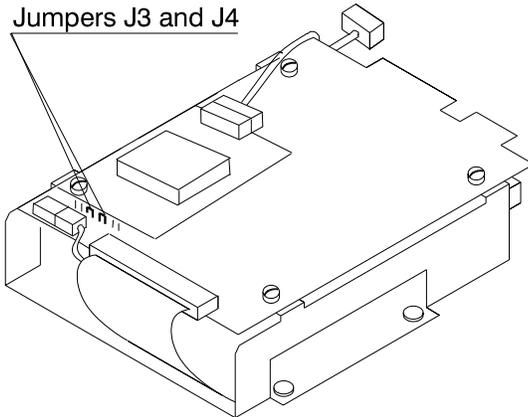

Figure 4-77. New Type of HDD
1. Identify the HDD that you received using Figure 4-77 (several types of HDD are available).
2. If you receive a new HDD assembly similar to the HDD shown (see Figure 4-77) continue with Step 3. Otherwise, go to Step 8.
3. Ensure that the jumpers are present in position J3 and J4. See Figure 4-77.